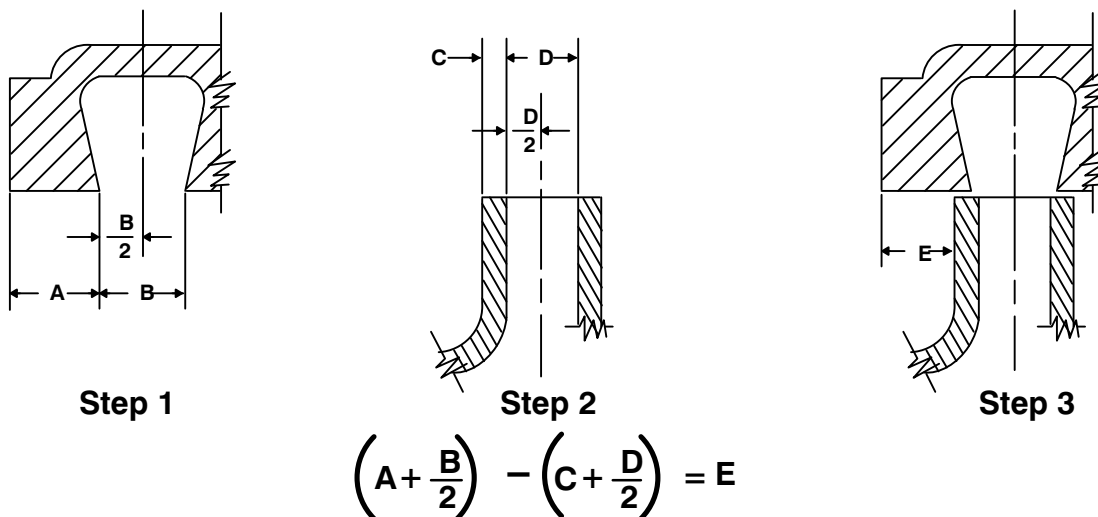

Figure 4. Centering Impeller Within Vane Plate Scroll
To verify the impeller positioning, measure the vane plate and impeller as shown in Figure 4. Use these measurements to calculate the required impeller location (dimension E). Add or remove impeller adjusting shims (14) until dimension E is obtained.